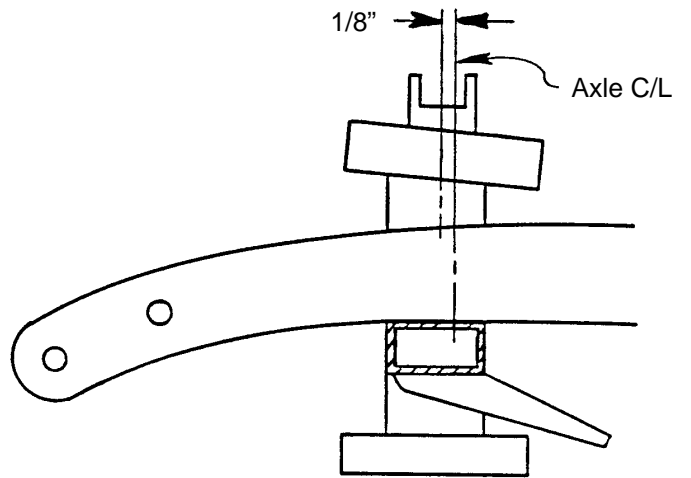

Figure 2
5. Trial fit the new crossmember onto the rails. It should be located with it's centerline 118" forward of the marked axle centerline. See Figure 2. The caster setting will bring the spindle pin back in line. The frame is 26-1/4" wide at the axle centerline. During boxing, the rails may have a tendency to bow outward slightly if they were clamped ahead of the axle centerline. Pull the rails in to fit the crossmember up onto the rails. It should be seated flat against the bottom of the frame rails. Clamp in place, double check your measurements, making sure crossmember is squared on the frame, then weld in place. Weld all around, top, sides and bottom. This crossmember keeps the front frame rails from twisting and flexing, so good strong welds are required.